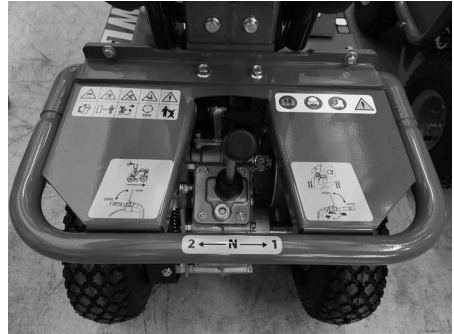

Figure 3
- Before switching on the engine make sure that both engagement levers are in the disengaged position (released); then place the gear lever in "N" (Fig. 3)
Before moving away from the machine, place the gear lever in "N" (Fig. 3) and switch off the engine by moving the switch (Fig.1 Ref. J) to the 0 position.
This lever selects the gear forward (1st, 2nd), neutral. (Fig.3).
- Move the gear lever (Fig.3) to the FORWARD position.